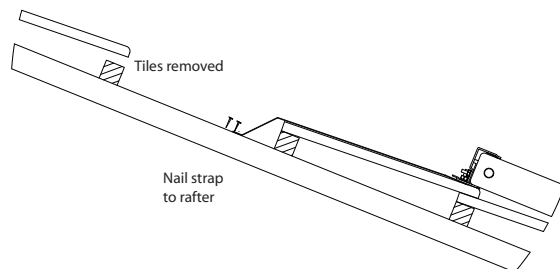

Figure 21 - Attach Mounting Straps
- Attach the collector mounting straps to the rafter or truss under the tiles as shown in **Figure 21**.